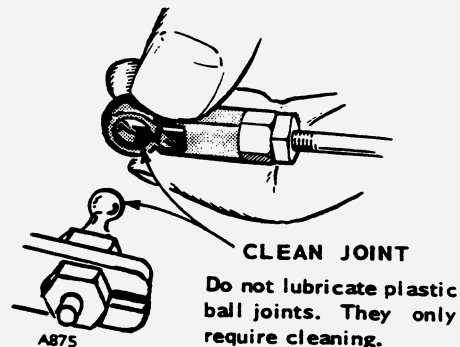

FIGURE 11. GOVERNOR LINKAGE
1. Loosen lock nut on linkage rod and disconnect linkage at ball joint engine stopped, Figure 11.
The linkage must be able to move freely through its entire travel. Beginning Spec J, clean and lubricate steel ball joints using a drop of light oil or graphite. Earlier models used plastic ball joints which require no lubrication. See Figure 11.